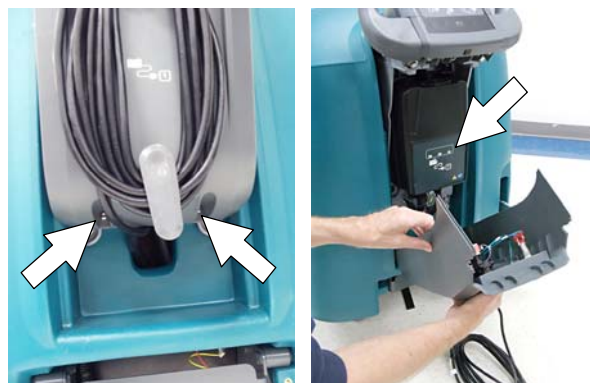

FIG. 44
2. Using a T25 star screwdriver, remove the two screws located at the bottom of the control console to access battery charger (Figure 44).